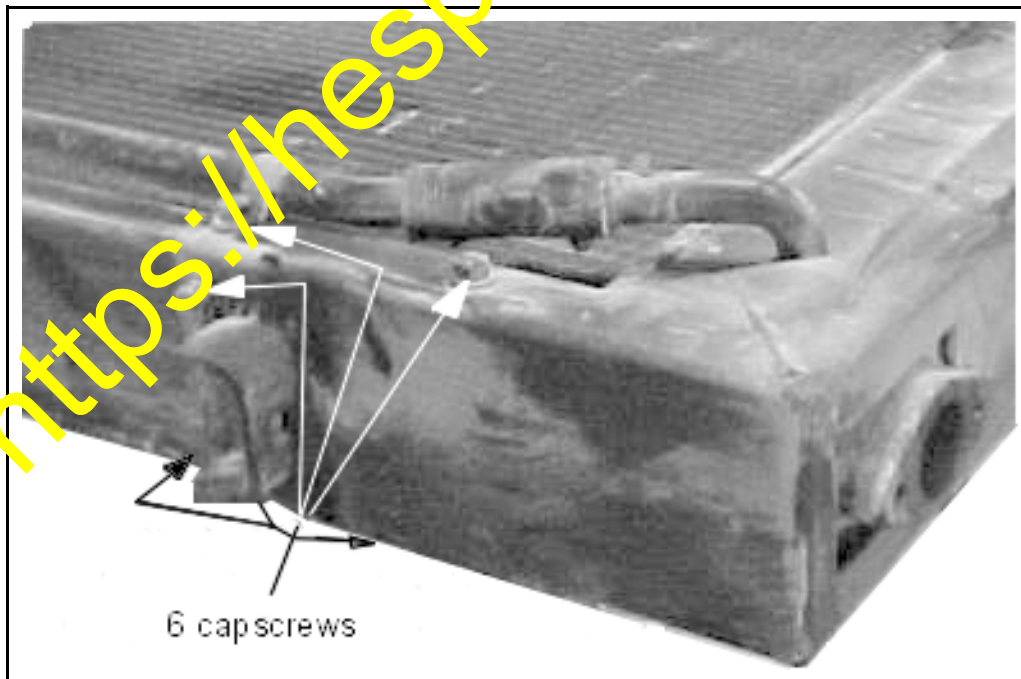

Figure 4 Radiator Mounting Bolts
2. As shown in Figure 4, remove the six capscrews on each side of the bottom frame.